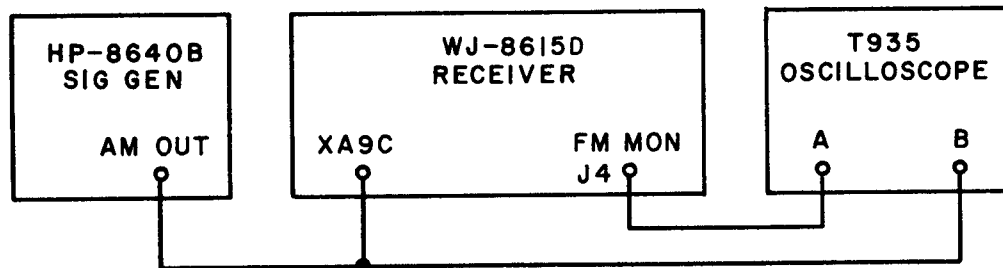

Figure 4-4. Audio/Video Performance Test, Equipment Connections
- 1) Connect the test equipment as illustrated in **Figure 4-4**.